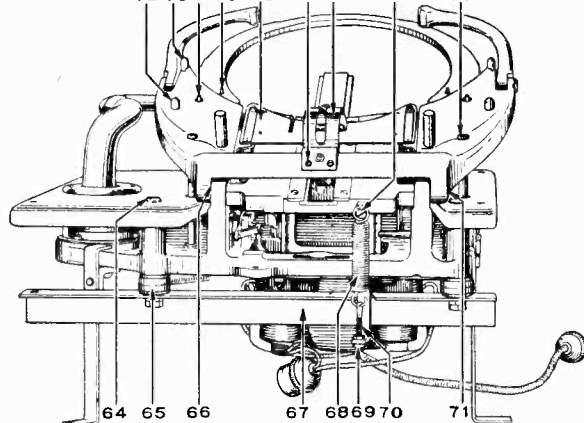

Fig. 11—Automatic Mechanism Back View
- c. Record guide pins 74 or 75, Fig. 11, not fitting properly in holes of lift ring. This fit should allow a free vertical motion of the pins, but a minimum side motion.
9. LIFT RING RISES TOO SLOWLY—If the lift ring rises too slowly with a resulting strain on the mechanism, or if it descends too fast, increase the tension of the spring 68, Fig. 11, in the back of the mechanism in the following manner:
10. LIFT RING RISES TOO FAST—If the lift ring rises too fast, if it descends too slowly, or if it touches the under side of the record on the turntable during playing, decrease the tension of the spring 68, Fig. 11, in the following manner: